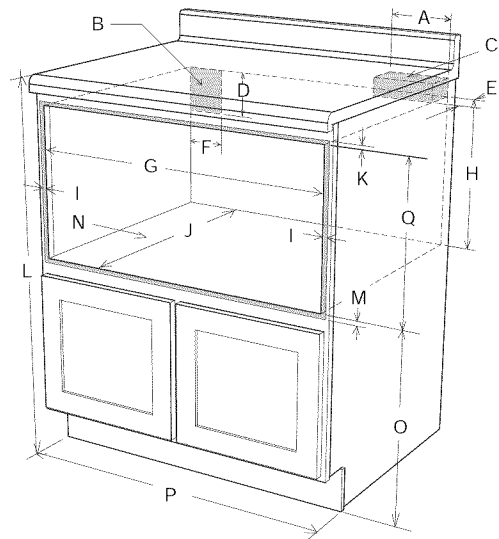
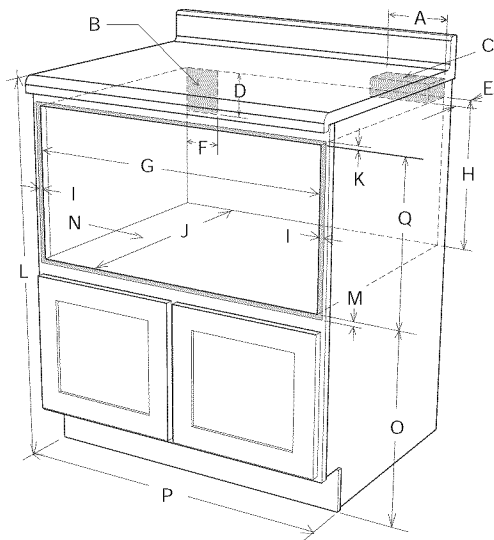
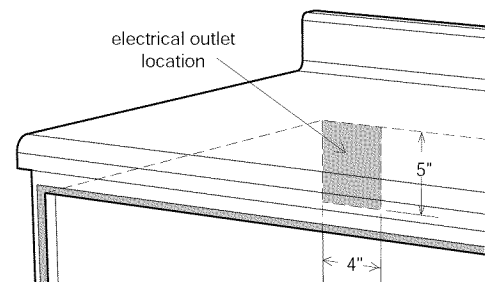

Figure 2
Figure 4
Figure 8
For SAFETY CONSIDERATIONS do not install the drawer in any combustible cabinetry, which is not in accord with the stated clearances and dimensions on pages 3, 4 and 5. See **Figure 2** (for 24") or **Figures 4 and 5** (for 30").
- Dimensions that are shown in **Figures 2, 4 and 5** must be used. Given dimensions provide minimum clearance. Locate the electrical outlet in the shaded area in the upper left-hand corner of the cutout. See **Figure 8**.
To reduce the risk of tipping the drawer, the anti-tip block must be properly installed 14 ¾" above the floor cutout. The 6" anti-tip block must be provided by the installer. See **Figures 2 and 6** for (24") or **Figures 4, 5, and 6** (for 30"). The anti-tip block prevents serious injury that might result from spilled hot liquids.